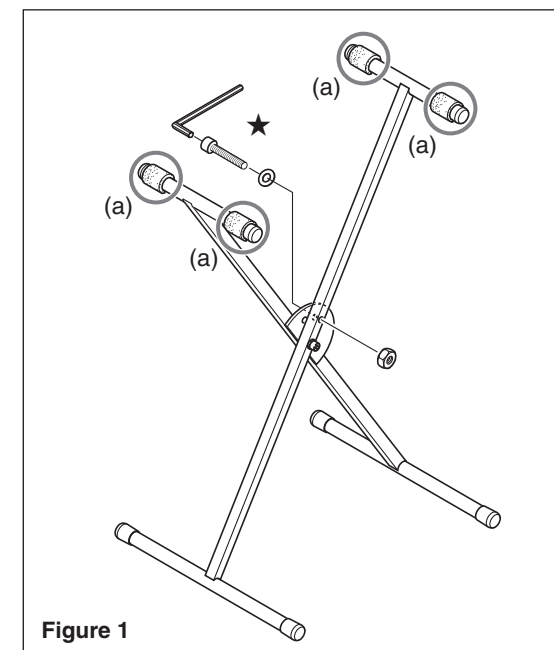

Figure 1
1. With the longer lengths of horizontal piping towards the floor, pull the short pipes apart to expand the stand. Fix the stand in its open position. As shown at ★ in Figure 1, pass the bolt through the washer and then through the hole in the stand. Affix the nut and then tighten with the Allen wrench that comes with the stand.
- Position four pieces of tape so they align with the tape on the stand, as shown in Figure 1 (a).